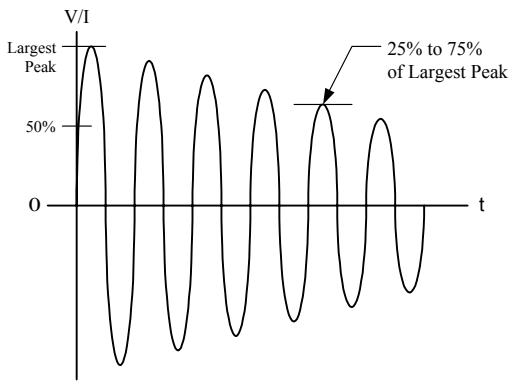

Figure 5: DO160C/D Voltage Waveform #3
Bus voltage is selected via two open/ground discrete inputs permitting automatic unit adaptation to the system bus voltage. Lighting bus, common, and gain selection inputs are protected against lightning surges to DO-160C/D category A3 (waveforms 3, 4, and 5). See figures 5, 6, and 7.
*Protected from lightning surges to DO160C/D category A3. See figures 5, 6, and 7.